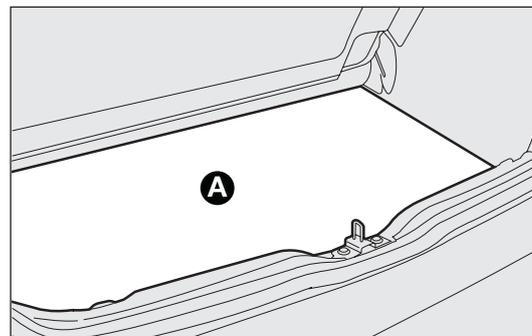

fig. 121
- lift the boot mat A-fig. 121;